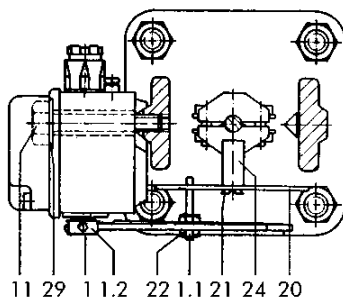

Fig. 3 · Attachment to e.g. Series 240
2.1.1 Attachment to cast-iron yoke valves (Fig. 3)